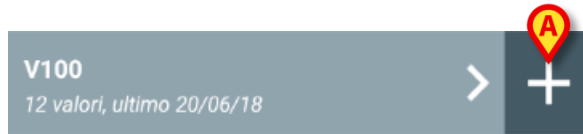

Fig 85
- Touch the **+** icon on the tile corresponding to the wanted dataset (Fig 85 **A**)